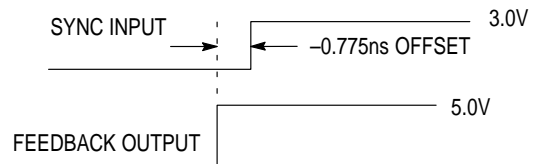

Figure 2. Depiction of the Fixed SYNC to Feedback Offset (t_{PD}) Which is Present When a 470KΩ Resistor is Tied to VCC or Ground
| t_{PD} ³ (Sync-Feedback) | SYNC input to feedback delay (meas. @ SYNC0 or 1 and FEEDBACK input pins) (See General AC Specification note 4 and Fig. 2 for explanation) | (470k Ω From RC1 to An.V _{CC}) | | ns |
4. A 1 MΩ resistor tied to either Analog V_{CC} or Analog GND as shown in Figure 2 is required to ensure no jitter is present on the MC88915 outputs. This technique causes a phase offset between the SYNC input and the output connected to the FEEDBACK input, measured at the input pins. The t_{PD} spec describes how this offset varies with process, temperature, and voltage. The specs were arrived at by measuring the phase relationship for the 14